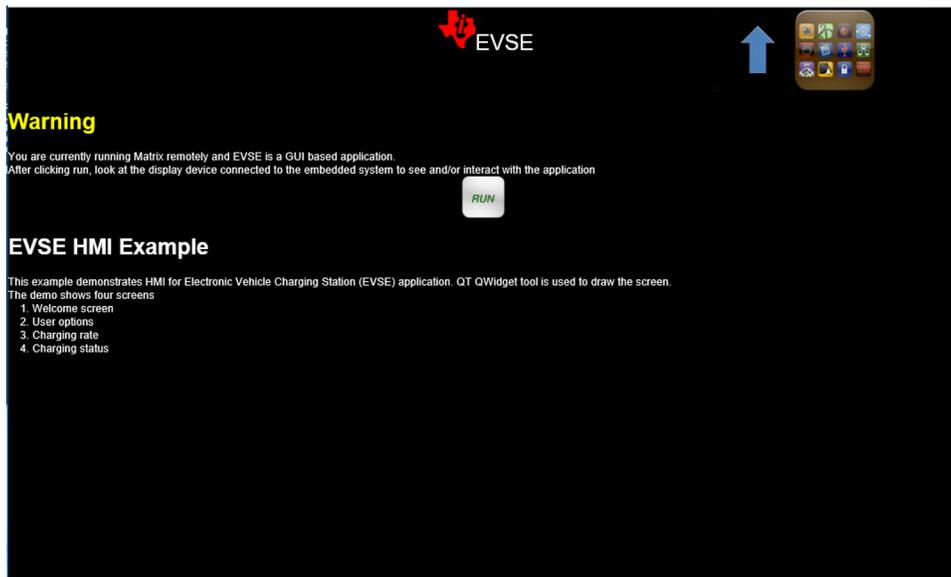

Figure 8. EVSE HMI Description and Run Screen
3. Figure 8 then shows on the screen. Click the *Run* button to launch the EVSE HMI demonstration GUI.